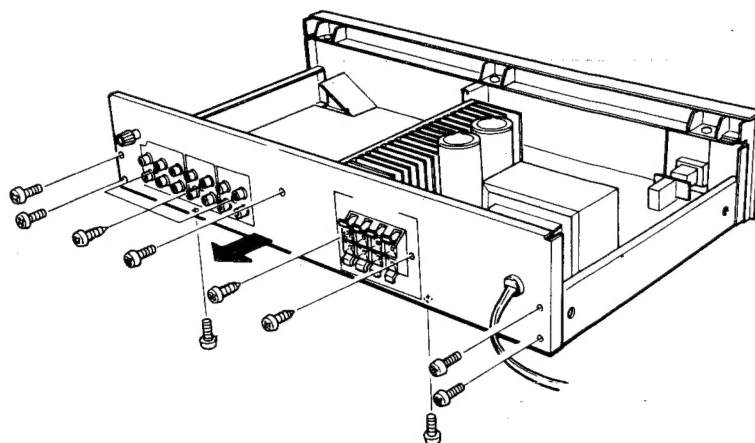

Fig. 6
2. How to remove the rear panel (Fig. 6)